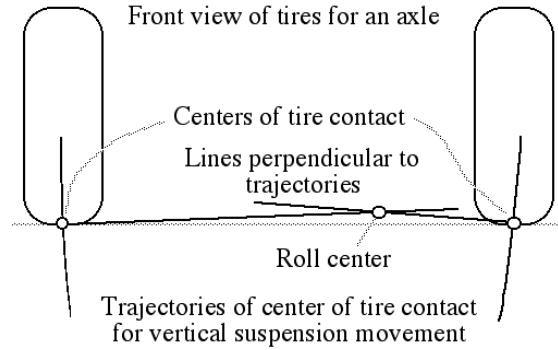

Figure 2. Roll center.
*Roll center* — imaginary point in the  $\mathbf{Y}_V \times \mathbf{Z}_V$  plane containing the two *wheel centers* of an axle, at which a lateral force applied to the vehicle body is reacted without producing a *suspension roll angle*. An alternate definition is that the roll center is the intersection of the two lines shown in Figure 2.